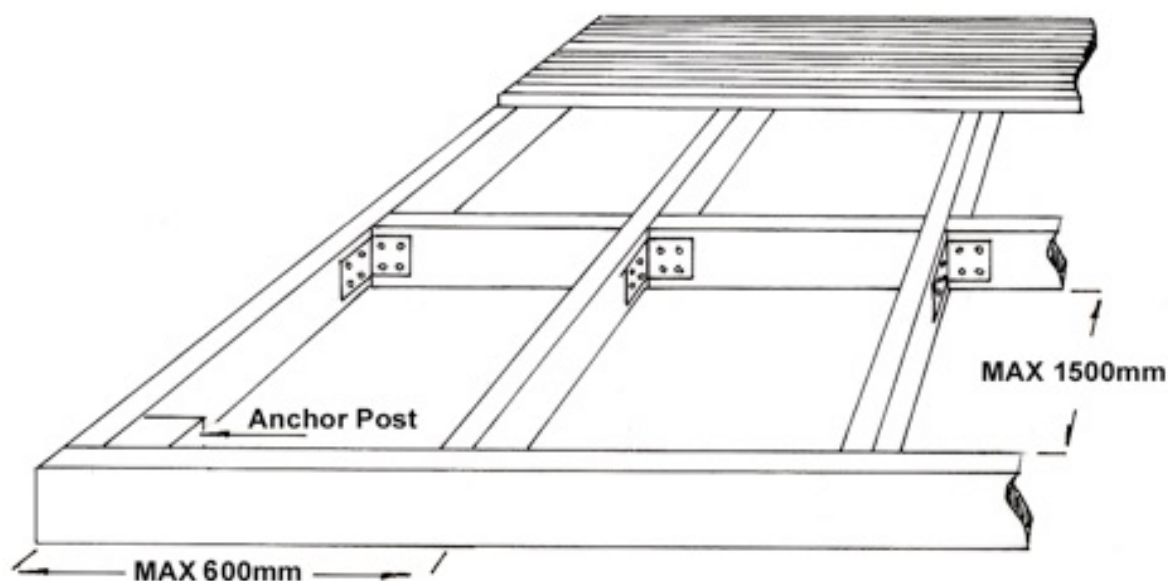

Fig 1
1. Raft construction (Fig 1)
The main beams should be laid out with up to 600mm centres – the actual centres will vary according to your overall deck size – and joists should be attached at 90° using angle brackets or joist hangers, to a maximum of 1.5m centres (See Fig 1).